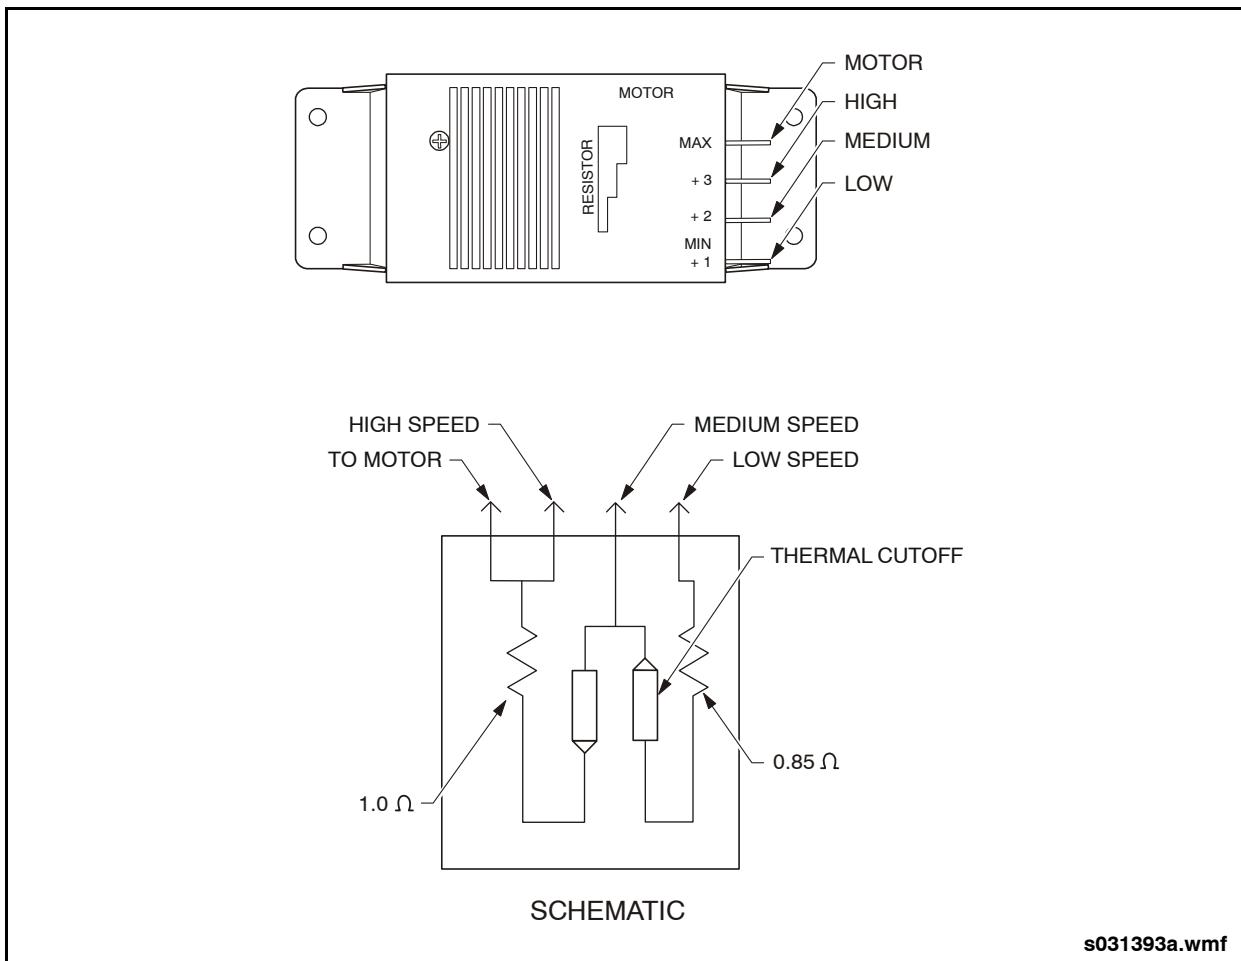

Fig. 10-9: Resistor Module
- a. Test the resistance between the Motor terminal and the High Speed terminal. Verify that the value is 0 ohms. See "Fig. 10-9: Resistor Module" on page 27.